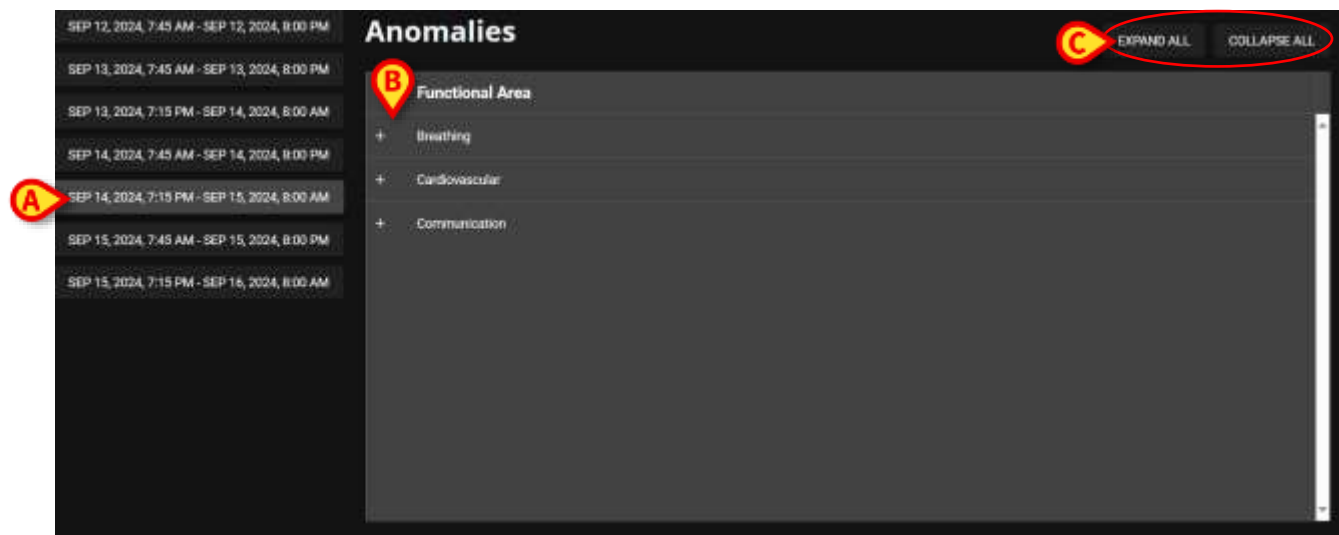

Fig 101
- Click a shift (Fig 101 **A**) to display the related anomalies on the central area (Fig 101 **B**).
- Click the **Expand All** button to expand all the items. Click the **Collapse All** button to collapse all the items (Fig 101 **C**).